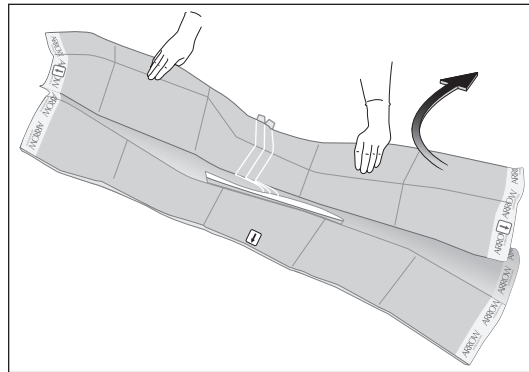

Figure 12
- Unfold towards head (refer to Figure 12).